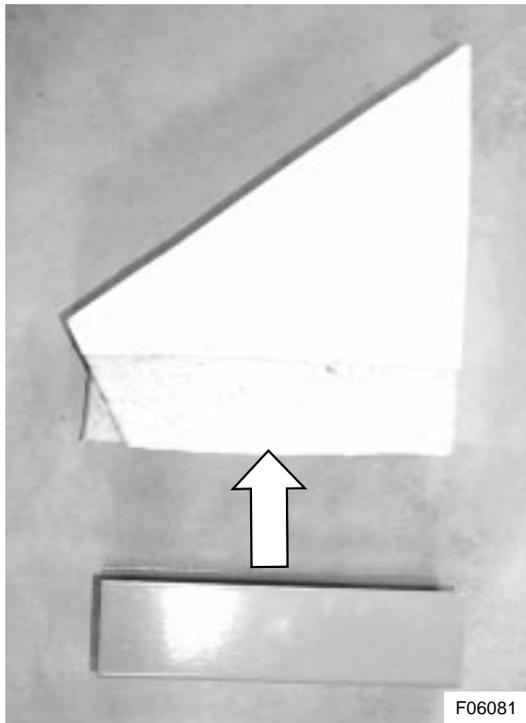

Figure 22: Machine screw retaining channel glued to insulation panel VH 10785621
- 1) Glue self-tapping screw retaining channel VH 10785570 to insulation panel VH 10785621 with Sika Tack (see Figure 22). Allow adhesive to cure.